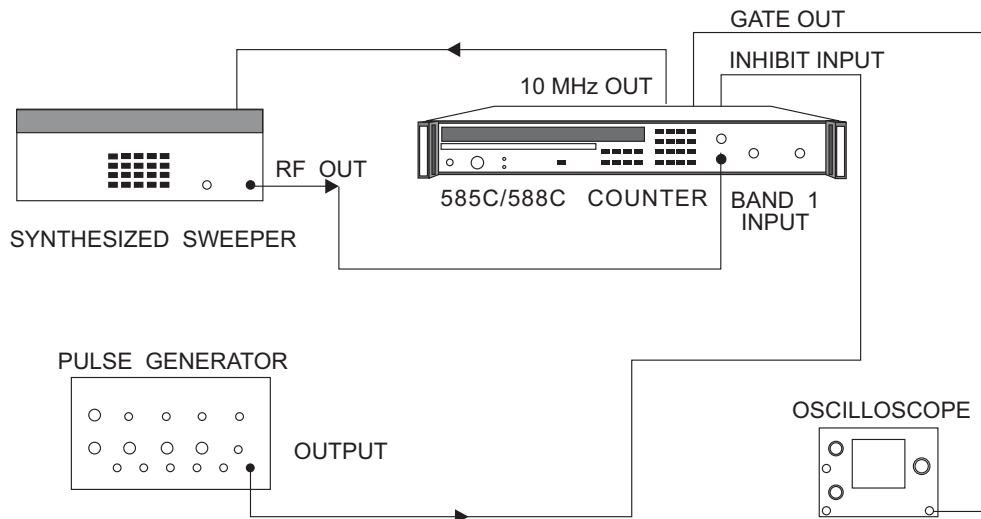

Figure 6-12. Band 1 Averaging Error Test Setup
1. Connect the equipment as shown in Figure 6-12 and turn the equipment on.